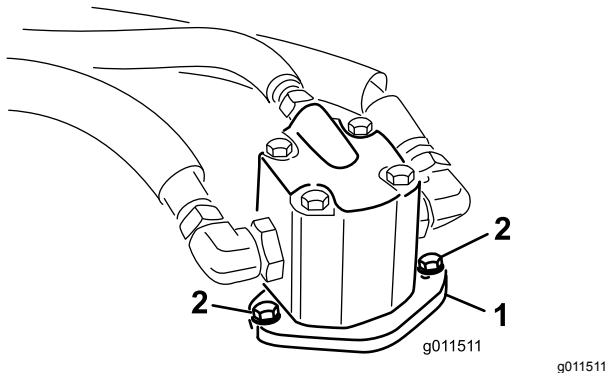

Figure 100
4. Remove the bolts securing the hydraulic motor to the mower deck (Figure 100).